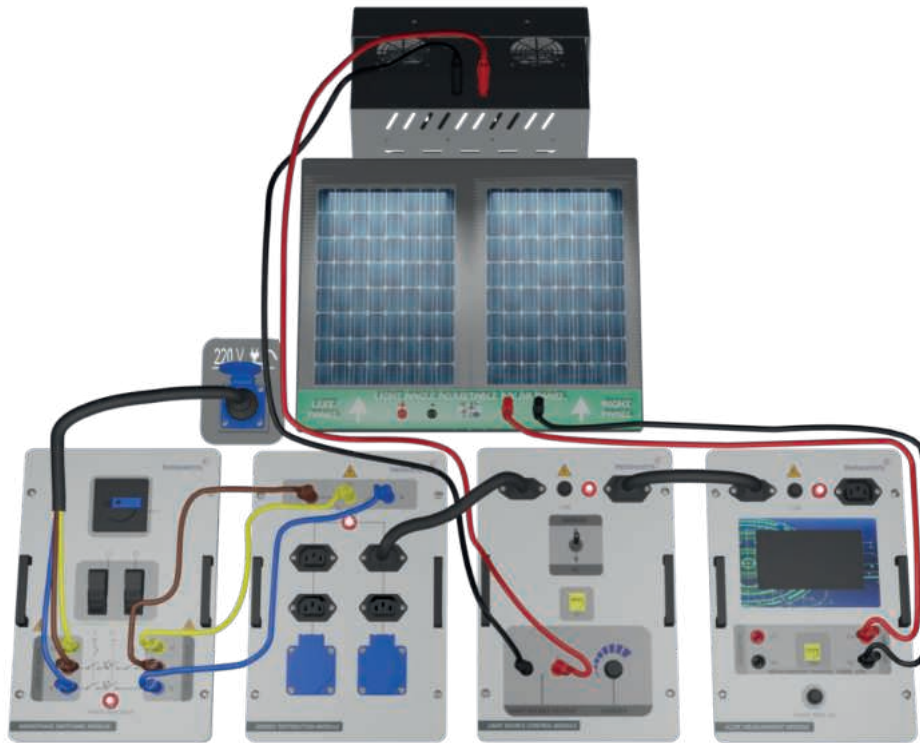

Figure-34. Installation Image of Examination of the No-Load Outputs of the Photovoltaic Panel Depending on the Sun's In-Day Movement (For Current)
1. Set up the connection as specified in Figure-34. Ensure a consistent level of lighting in the laboratory by maintaining an average scenario. Any changes to the positions of the lamps or curtains may affect the experimental results.